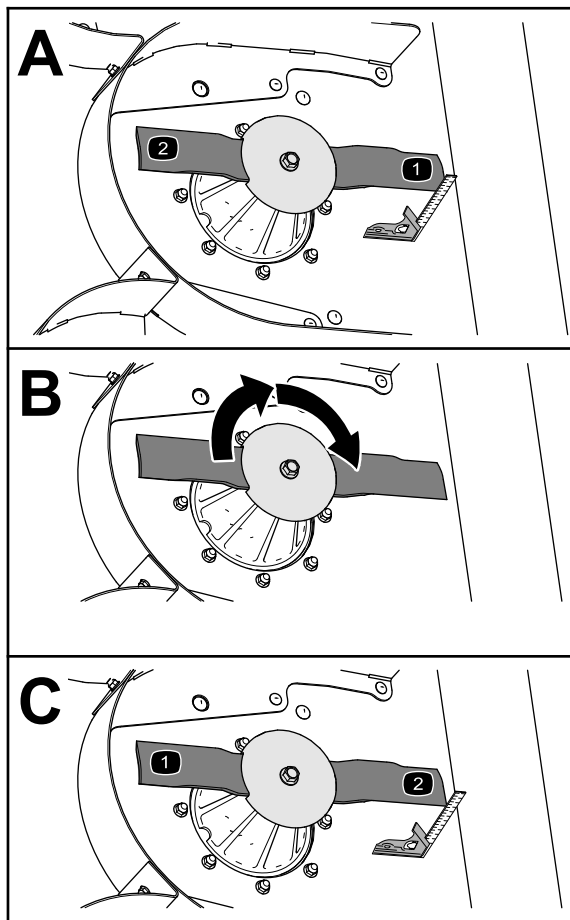

Figure 66
3. Use a combination square to measure the distance between the clean area of the deck and the tip of the cutting edge (Figure 66).
4. Rotate the blade 180° (Figure 66).
5. Measure the distance between the clean area on the deck and the tip of the cutting edge (Figure 66).